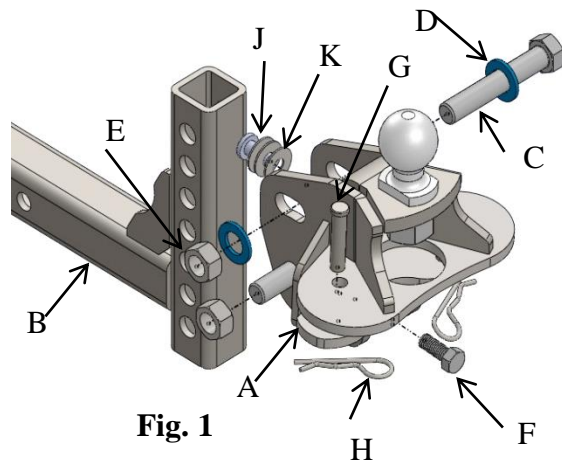

Fig. 1
- Insert the spring bars into the ball mount (A) and secure with pin (G) and clip (H). Apply a lubricant on the spring bars as you insert them into the ball mount.
- With the trailer coupled to the ball and the trailer setting level, (use the tongue jack to level the trailer), the angle adjustment in the ball mount should have the spring bar 3" below the friction pad for the 400 lb. system and 4" below the friction pad for the 600 lb. system. See Fig. 5. If needed add or subtract washers (K) shown in Fig. 1 to get the needed dimension. Each washer added will move the spring bars down approx. 5/8" to 3/4".
- Install and tighten bolt (F) shown in Fig.1